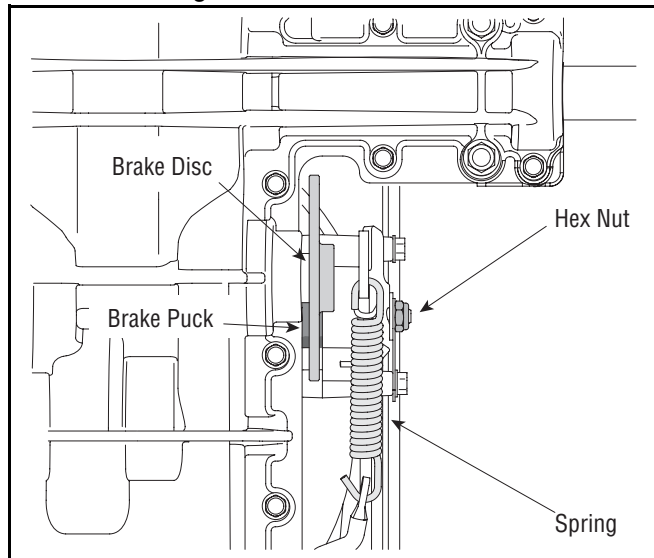

Figure 11
1. Looking at the transmission from the rear of the tractor, locate the compression spring and brake disc. See Figure 11.
2. Loosen, but do NOT remove, the hex nut found on the right side of the brake assembly. See Figure 11.